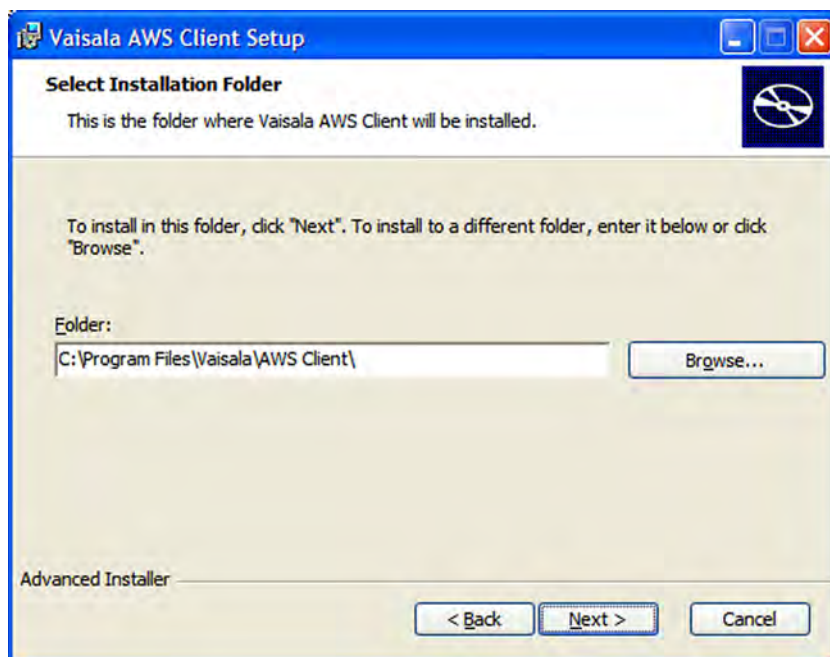

Figure 15 Select Installation Folder Window
4. The **Select Installation Folder** window is displayed next as shown in Figure 15 on page 39. To install the AWS Client software in the default installation folder, select **Next**. You can also change the installation folder on your desktop computer by selecting **Browse** and then browsing for the folder you want or by entering the installation folder path in the **Folder** field.